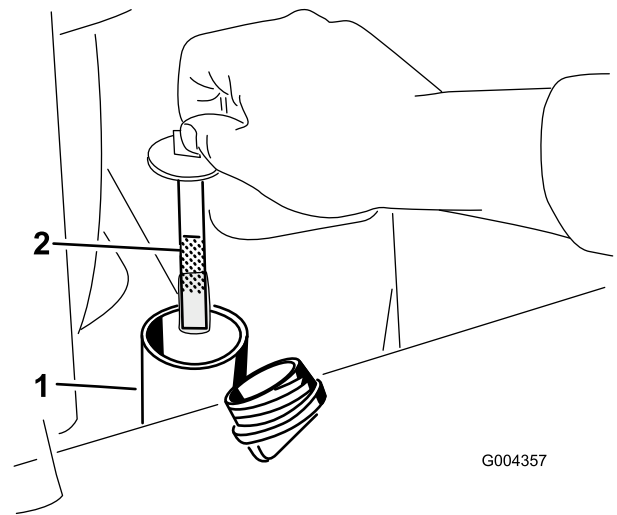

Figure 18
6. Remove the cap from the filler neck and check the fluid level on the dipstick (Figure 18).